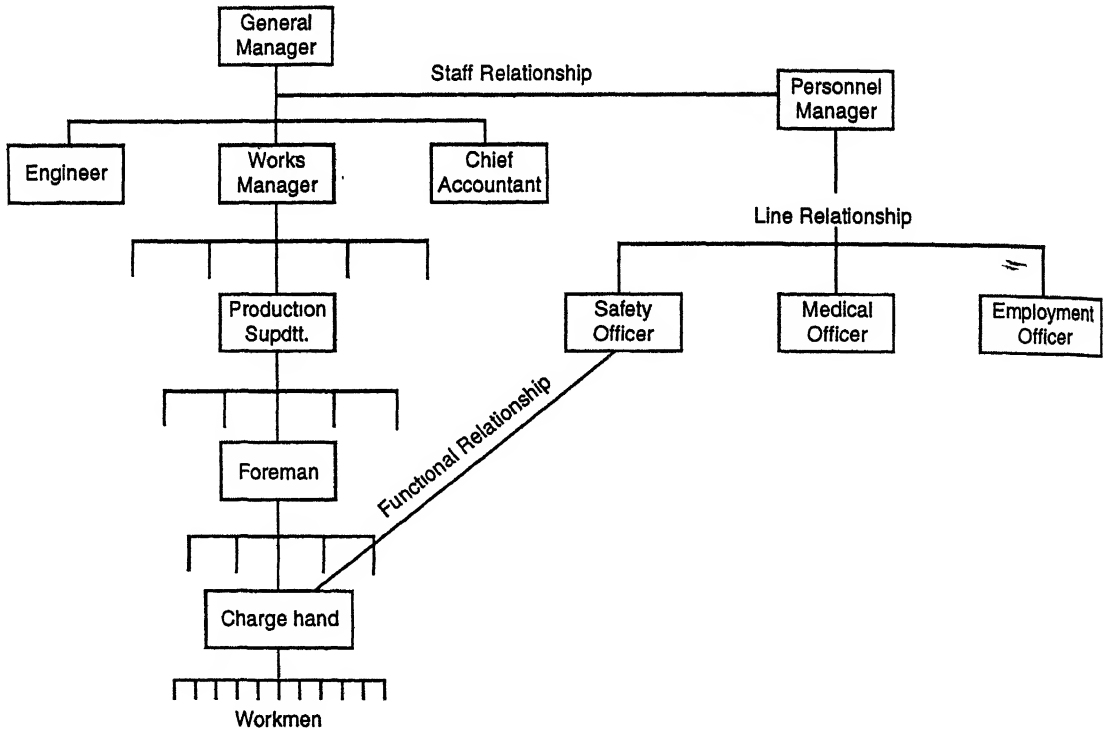

Fig. 7.9. Complex organisation.
**4. “Complex” or “Line, functional and staff” organisation.** Fig. 7.9 represents the line, functional and staff relationship. It reveals that personnel manager is shown in a staff relationship to the remainder of the organisation; though not a standard arrangement yet it recognizes the way in which most personnel managers conceive their role in the organisation, as being advisory to all departments on personnel matters. Further there is a line relationship in the personal